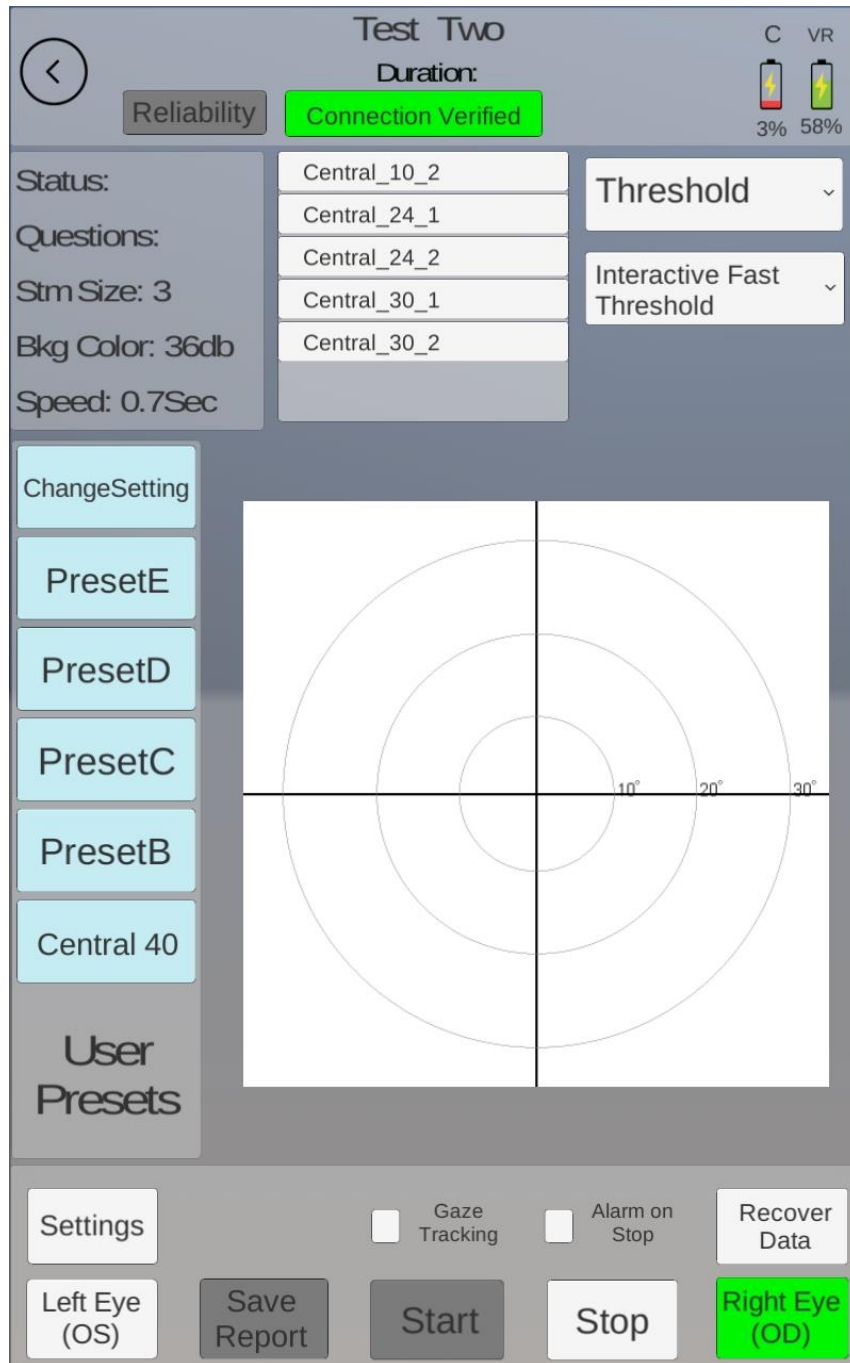

Figure 40: Test options
- h) Go to the Test page on the Controller and select ‘**Resend data**’ as shown in **Figure 40**.
In the controller page Select “*Start Test*”. The Start page will open as shown in **Figure 40: Test options**.